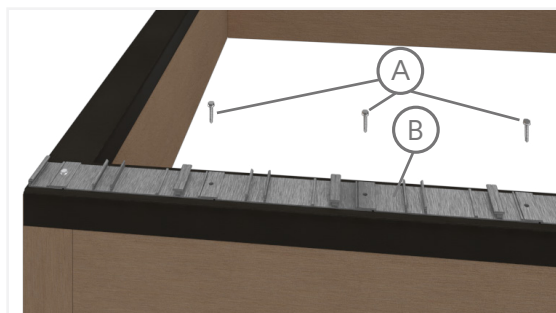

Fig. 8
5. Making sure the entire length of the pre-assembled Clip Strip is square to the substructure; secure the remaining length of the Clip Strip to the DockDeck board support through the screw holes provided (Fig. 8).